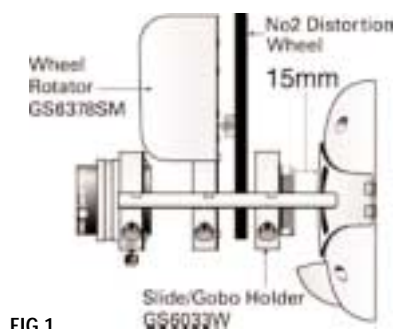

FIG 1
**FIG 1** A number 2 Distortion Wheel on a Variable Speed Wheel Rotator (GS6378SM) in front of a 3" dot cassette (FG7141) on a Solar Cassette Rotator (FG6320) fitted into a Solar Gate Adaptor (GS6319), creates the effect of sunlight through trees.